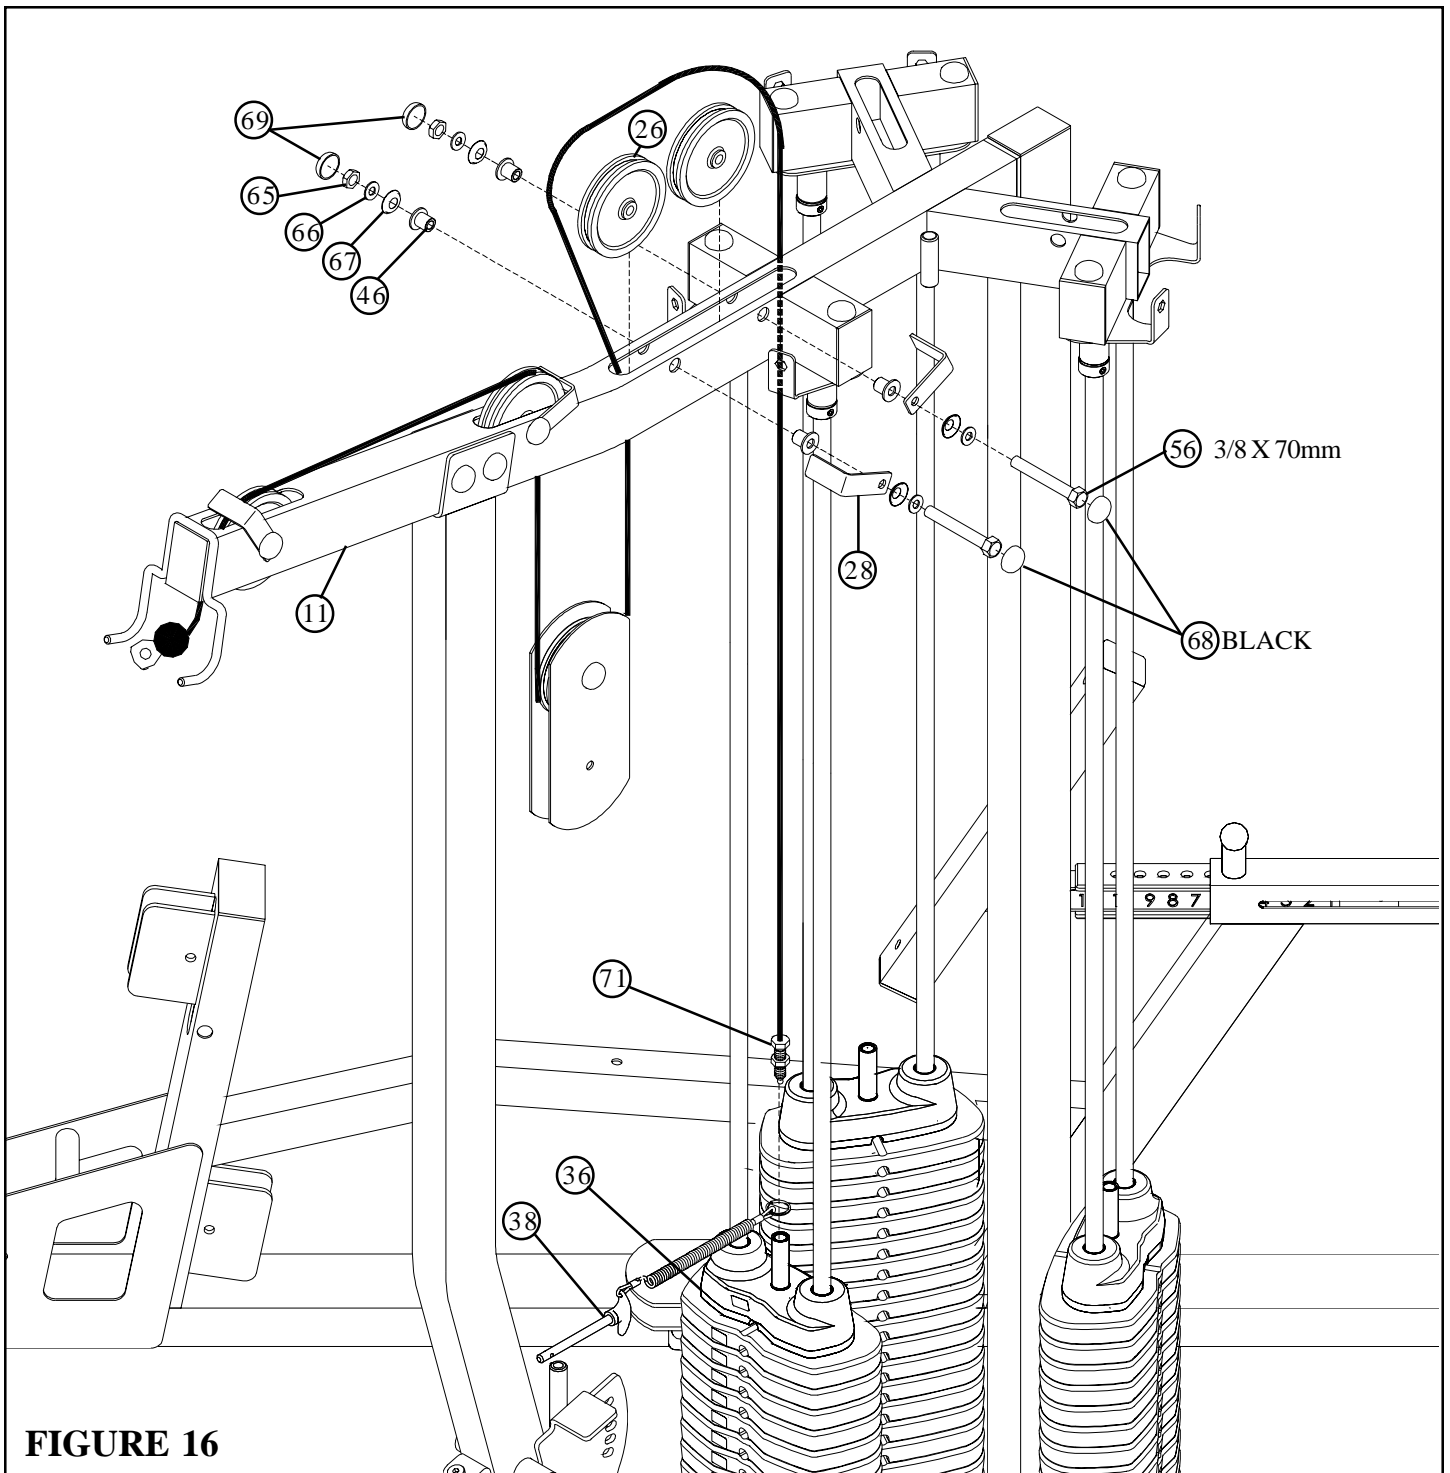

**FIGURE 15**
- Route the LAT CABLE (71) through the LAT/LOW BOOM (11) and assemble two 4-1/2 PULLEYS (26) to the BOOM (11) using two RH CAPS (69), two BLACK RH CAPS (68), two 3/8 X 70mm BOLTS (56), four 3/8 SAE WASHERS (66), four 3/8 RH WASHERS (67), two 2-7/8 X 2-1/4 CABLE CLIPS (28), four 3/8 X 1/2 FLANGE SPACERS (46) and two 3/8 LOW HEIGHT LOCK NUTS (65) as shown in FIGURE 15.
- Route the LAT CABLE (71) around one 4-1/2 PULLEY (26) and assemble the PULLEY to two DUAL PULLEY PLATES (23) using two RH CAPS (69), one 3/8 X 43mm BOLT (51), two 3/8 SAE WASHERS (66), two 3/8 RH WASHERS (67) and one 3/8 LOW HEIGHT LOCK NUT (65) as shown in FIGURE 15.